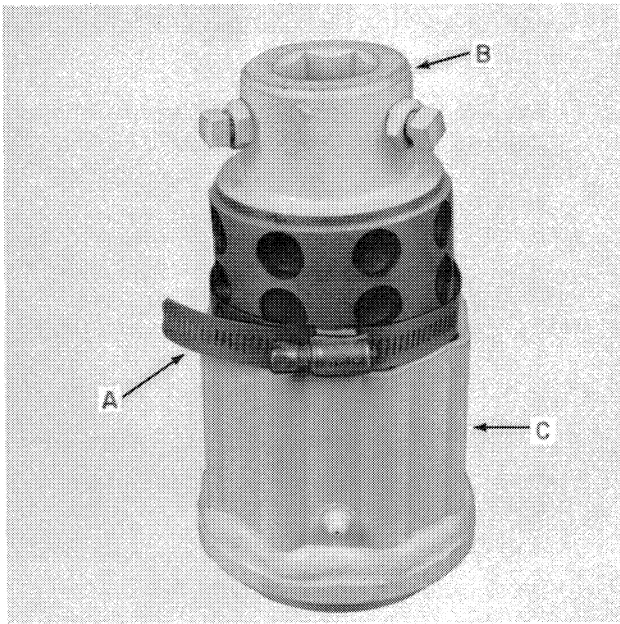
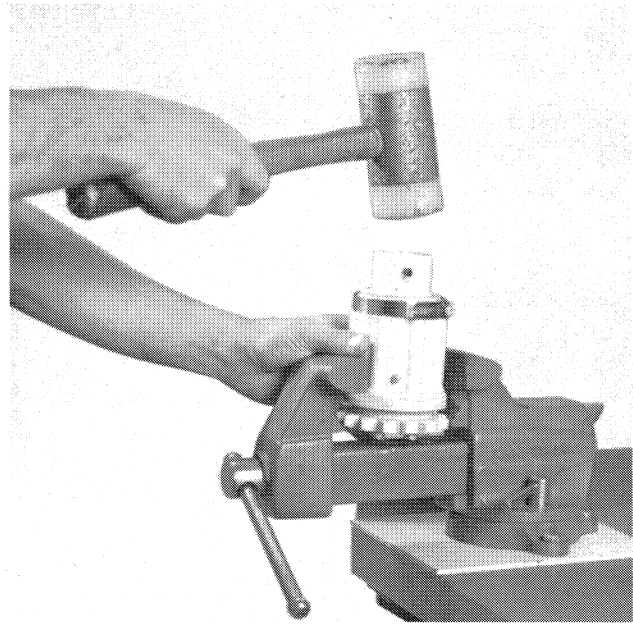

Figure 2-22
Figure 2-23
7. Install one row of springs and pins in the pin cylinder, B, Figure 2-22.
8. Use a 4" (102 mm) hose clamp, A, Figure 2-22, to compress the row of pins.
9. Push the pin cylinder assembly into the clutch housing, C, Figure 2-22, using a heavy soft hammer as shown in Figure 2-23.